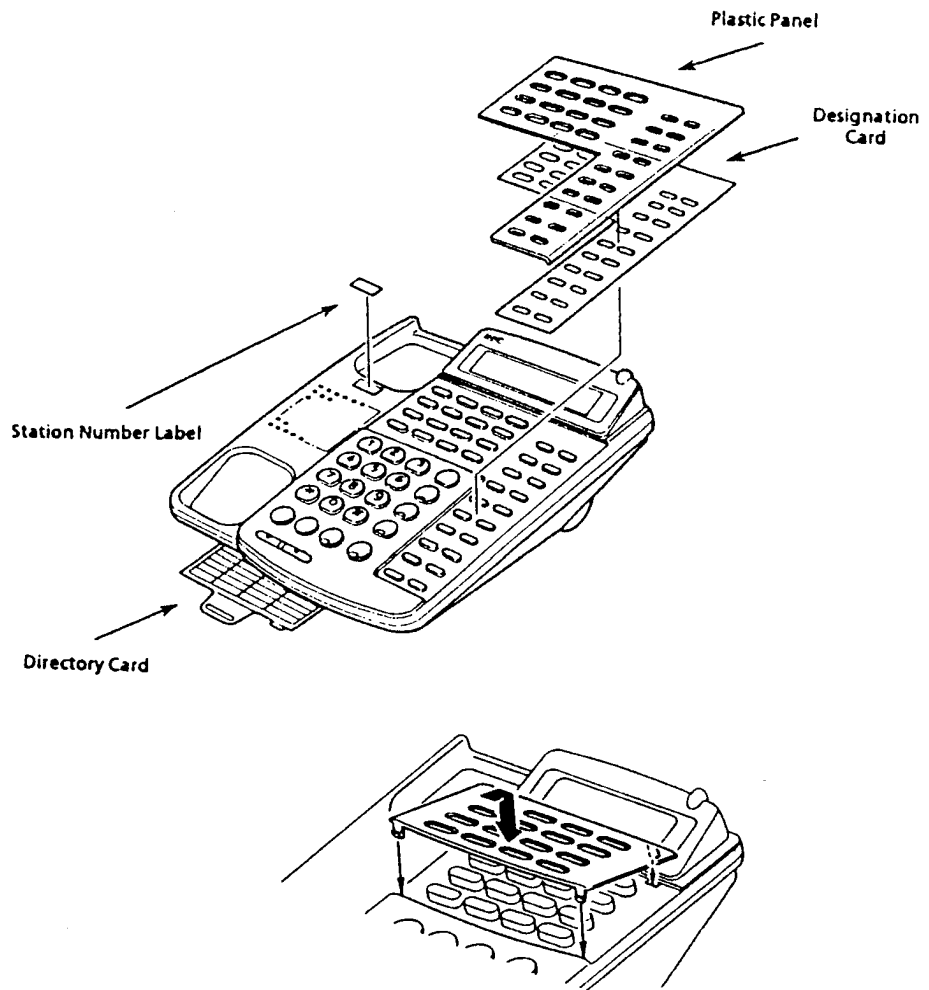

Figure 1-41 Installing the Designation Card, Plastic Panel, and Labels on a Multiline Terminal
1. Place the designation card over the keys on the Multiline Terminal. (Refer to Figure 1-41 - Installing the Designation Card, Plastic Panel, and Labels on a Multiline Terminal.)
2. Insert the top hooks of the clear plastic panel in the appropriate holes on the Multiline Terminal, then place the bottom hooks in the Multiline Terminal. Snap the plastic panel into place to secure it. (Refer to Figure 1-41 - Installing the Designation Card, Plastic Panel, and Labels on a Multiline Terminal.)
4. Remove the directory card from the sheet and put it on the directory tray. (Refer to Figure 1-41 - Installing the Designation Card, Plastic Panel, and Labels on a Multiline Terminal.)